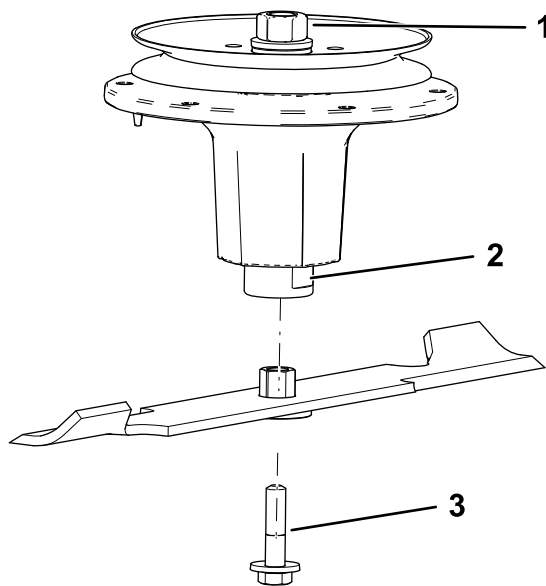

Figure 93
2. Install the bushing/blade assembly into the spindle shaft (Figure 93).